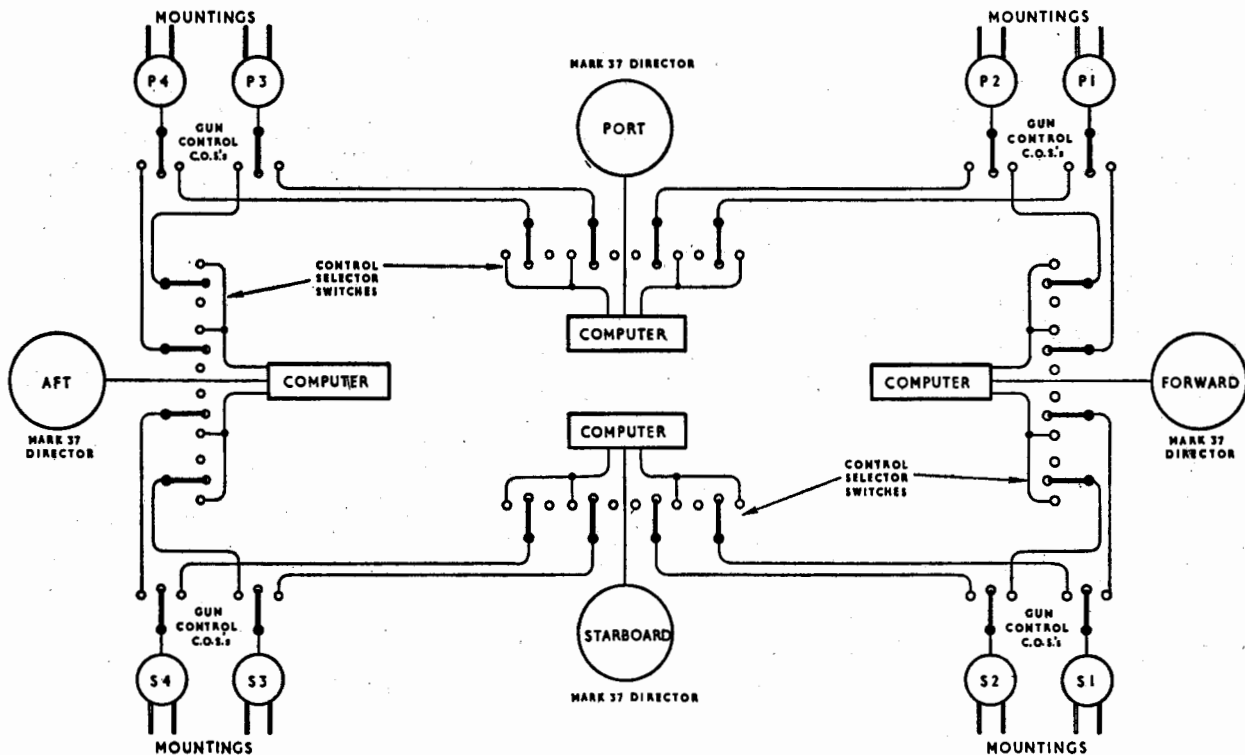

Fig. 1. 5·25-in. fire control system—H.M.S. VANGUARD
1. The secondary armament fitted in H.M.S. *Vanguard* comprises four American Mark 37 directors controlling eight 5·25-in. Twin Mark 1* mountings. The directors are arranged in diamond formation, as shown in Fig. 1 and each director can fire the guns of four mountings simultaneously. This arrangement ensures that a target circling the ship can be engaged continuously by the guns of at least four mountings, one director taking over the target from the other, and so on, as the course of the target changes. Control change-over switches fitted in each computer room and gun control switches fitted at each mounting can be set to determine from which director the guns are to be fired. These switching facilities make it possible for: